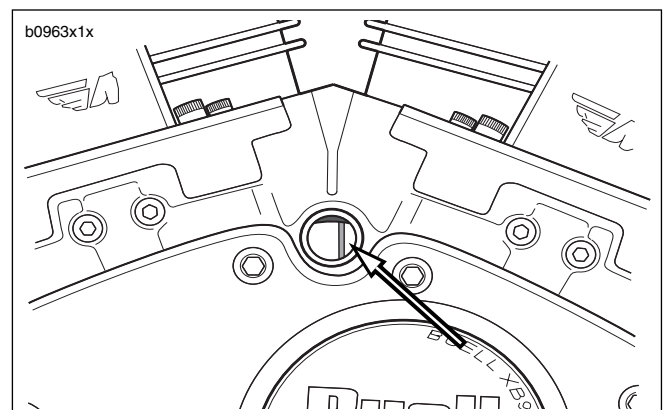

Figure 1-52. Retarded Timing
4. See Figure 1-52. If timing is retarded (mark appears on right side of window) rotate timing plate clockwise.